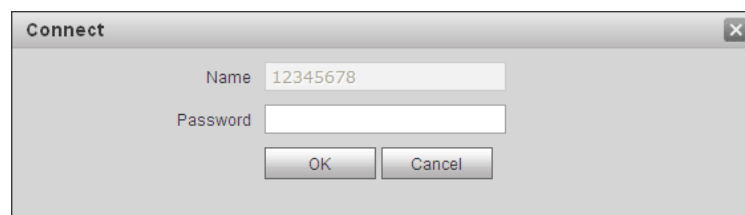

Figure 5-21
Step 3. Click **+** of WIFI you want to connect. System shows Connection interface, see Figure 5-21.